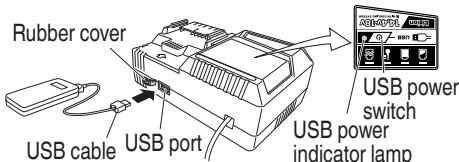

Fig. 12
(2) Turn the USB power switch ON (Fig. 12)
(3) Connect the USB cable. (Fig. 12)
- Turn the USB power switch OFF and unplug the power cord from the electrical outlet. (Fig. 12)